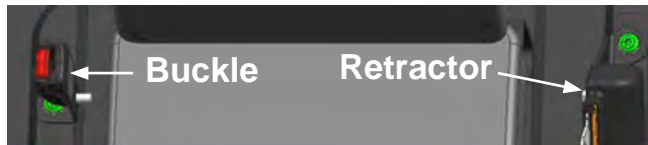

Figure 15-1
1. Remove the bolts to the seat belt buckle and the retractor, and discard. Set the seat belt buckle and retractor aside for reinstallation (see Figure 15-1).